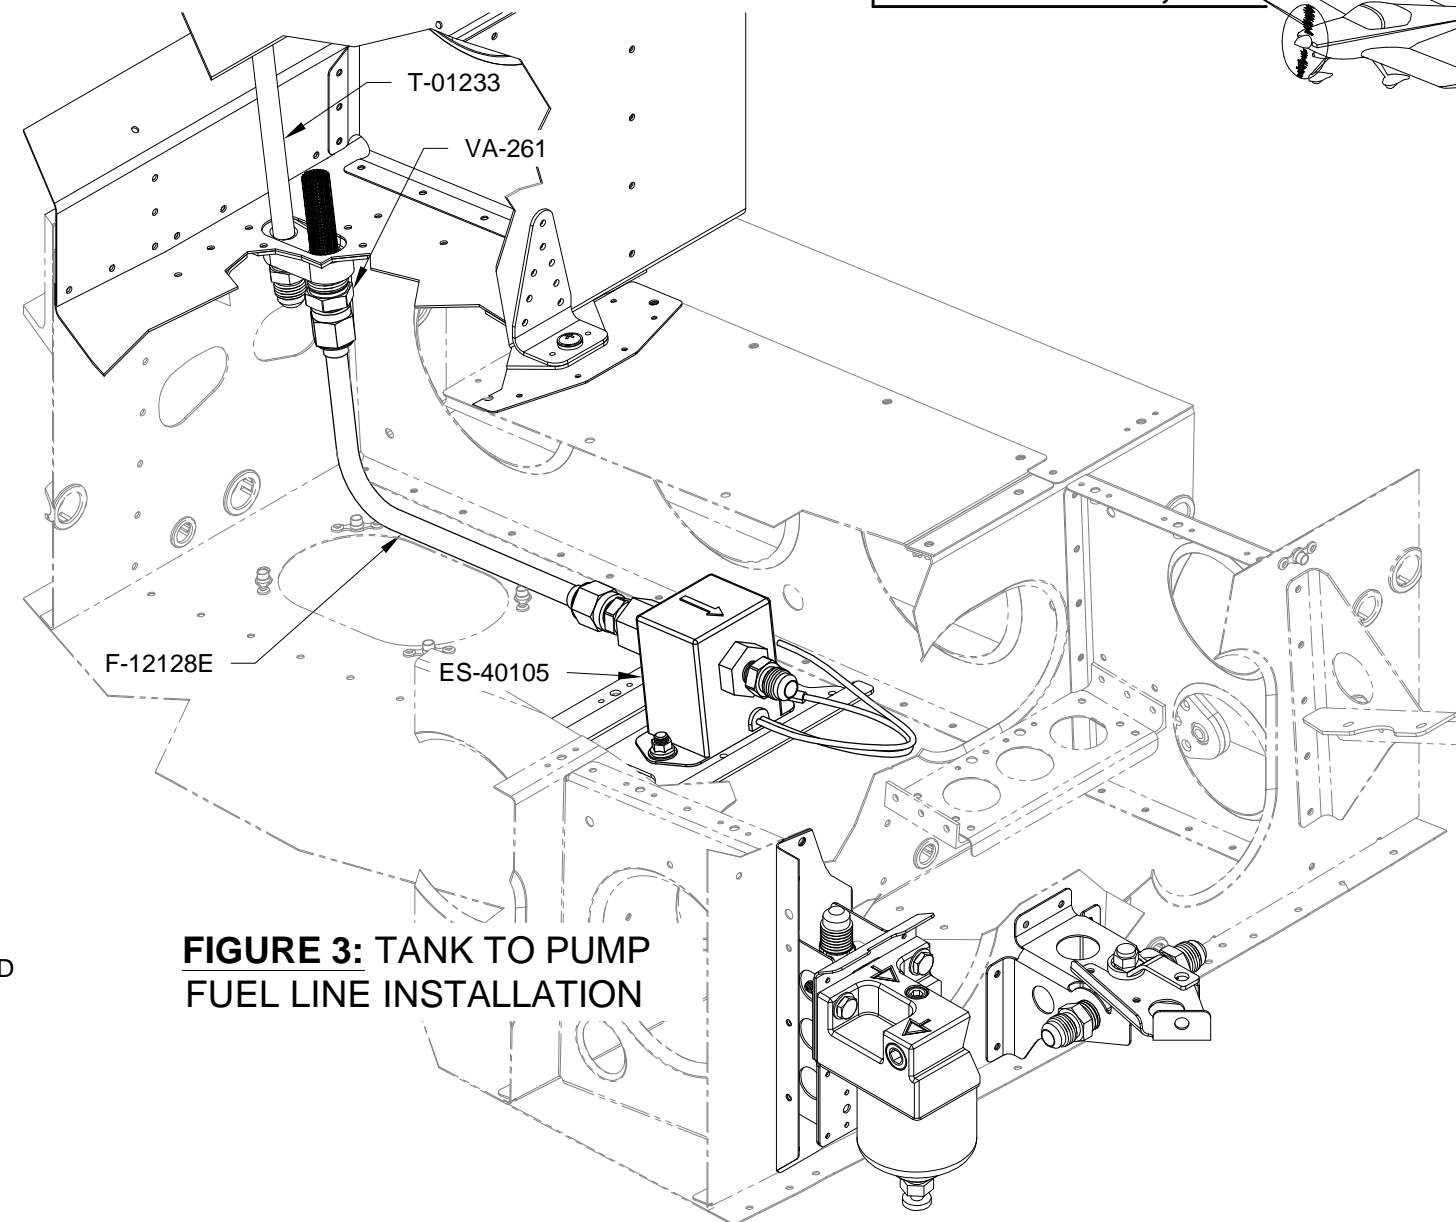

FIGURE 3: TANK TO PUMP FUEL LINE INSTALLATION
Step 4: Temporarily attach the F-12128E to the VA-261 and ES-40105 as shown in Figure 3, but do not fully install at this time. A small amount of bending/adjustment by hand is acceptable. The F-12128E Fuel Line will be removed for access to fabricate and install other fuel lines and is permanently installed later.